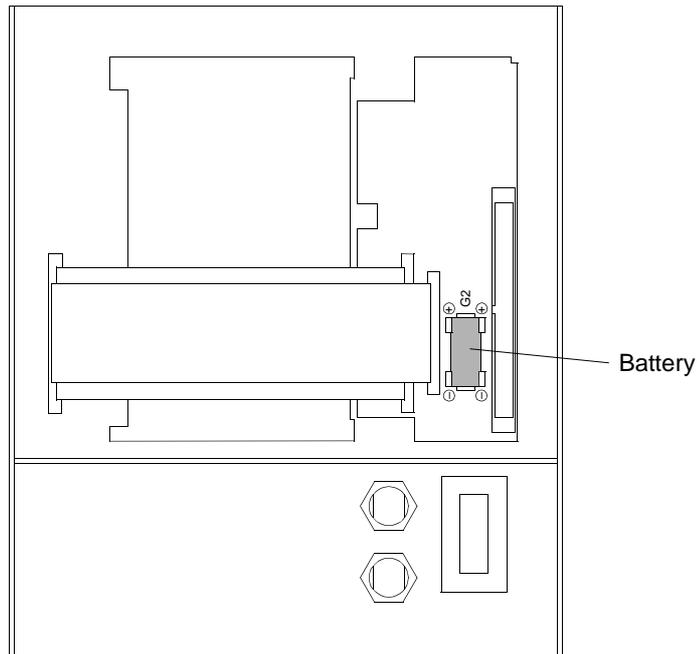

Figure 9-2 Rear side of front panel (housing size $1/2$) with separate operator control battery
- Plug the battery into the snap connection according to Figure 9-2.